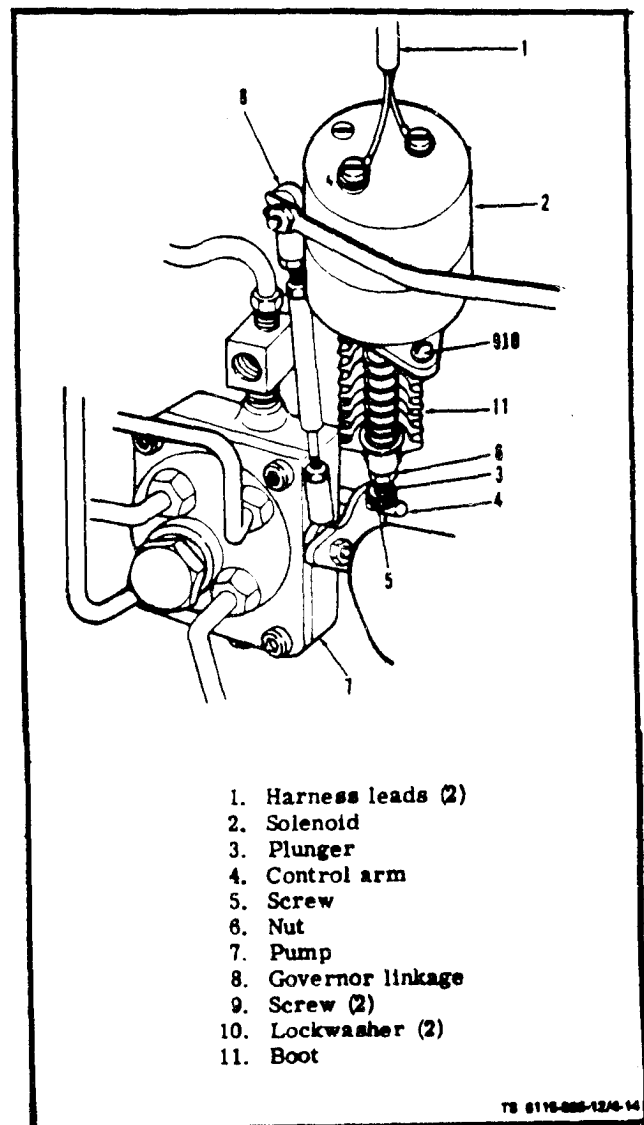
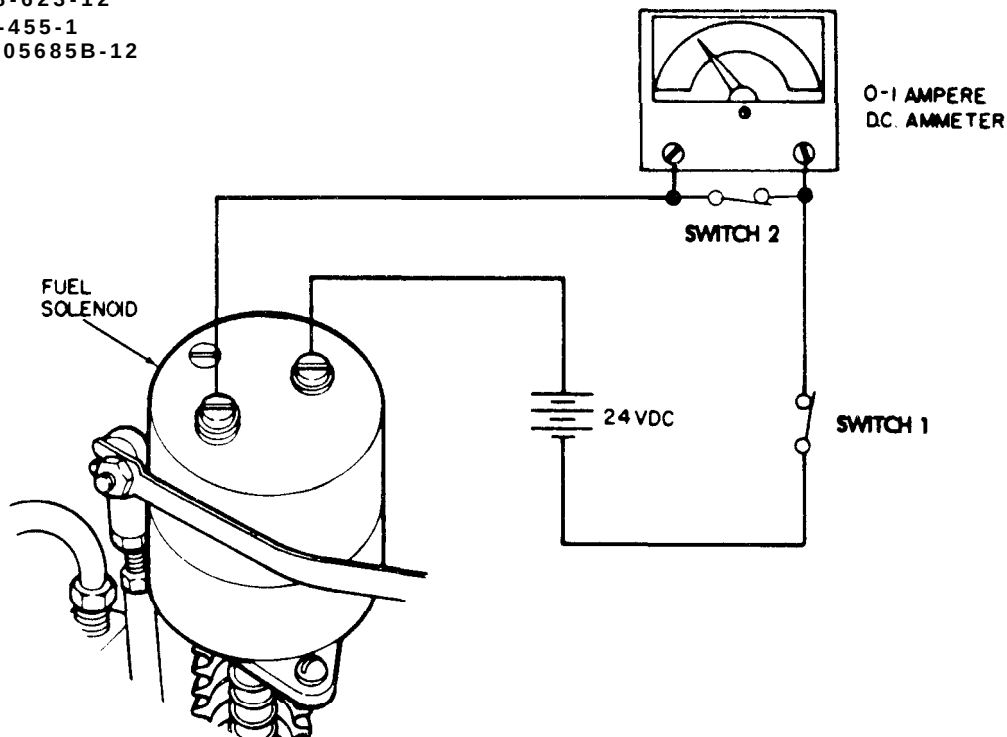

Figure 4-14. Adjusting Fuel Shut-Off Solenoid
Figure 4-15. Fuel Solenoid Test Set-Up.
a. Inspect (on Equipment) (see figure 4-14). On ASK equipped generators, remove right panel assembly (para. 5-6). Check that electrical connections (1) are secure and clean. Check that rubber boot (11) is clean and not broken. Check that governor and pump linkage moves freely and is clean.
b. Test (on Equipment) (see figure 4-15).
(1) Tag and remove the solenoid harness leads (1). Figure 4-14.
(2) Connect the solenoid into test setup (figure 4-15).
(3) With switch (S1) closed the plunger should actuate and the current draw should be 0.25 ampere dc.
(4) If plunger does not actuate or if meter reads above 0.35 amperes replace solenoid.
c. Remove (see figure 4-14). Tag and disconnect harness leads (1). Remove the shut-off solenoid by removing screws (9) and lockwashers (10).
d. Installation. Mount shut-off solenoid using screws (9) and lockwashers (10). Reconnect previously tagged and removed harness wires (1).
e. Adjust. The solenoid plunger (3) should be adjusted so it fully stops injection when in the deenergized position. With engine running at full rated load, clearance between plunger (3) and control arm (4) should be at least 1/8 inch. To adjust the plunger length, loosen jam nut (6) on bottom of plunger. Turn knurled headscrew (5). Lock jam nut (6) after correct adjustment. On ASK equipped generators, install right panel assembly (para. 5-6).